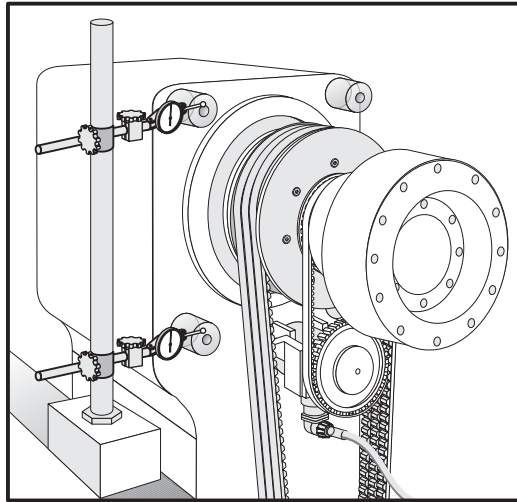

Figure 3-12. Indicator setup.
6. Once the spindle head assembly is level, setup dual indicators on the large magnetic base and place on the base casting to the rear. Indicate them at the machined bosses to maintain the spindle head level. See Figure 3-12.